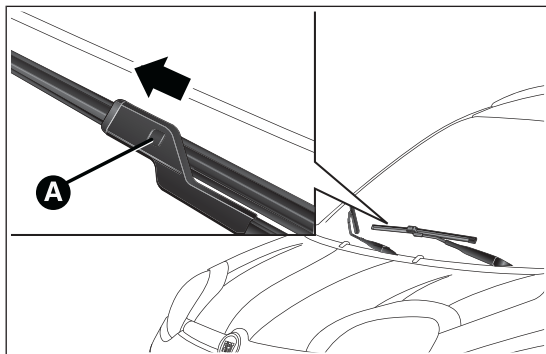

fig. 157
- ☐ raise the wiper arm, press tab A fig. 157 of the attachment spring and remove the blade from the arm;